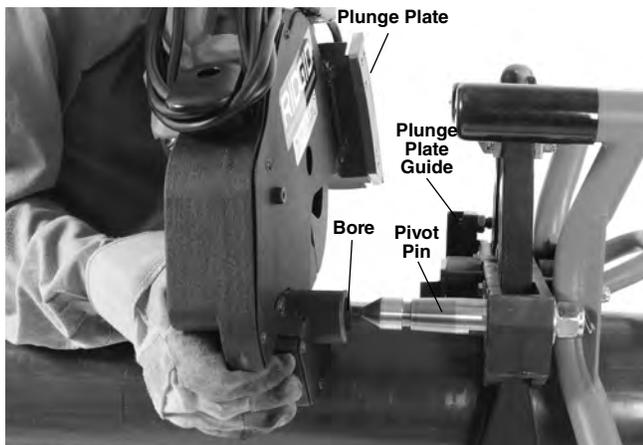

Figure 11 – Aligning the Pivot Pin
2. Securely grasp the PCS-500 Transportable Pipe Saw at the handle and the pivot grip. Align the pivot pin bore on the PipeSaw with pivot pin of the clamp and the plunge plate should be higher than the plunge plate guide. See *Figure 11*.
4. Press the latch on PipeSaw unit to disengage the pivot pin and slide the saw off of the pivot pin. See *Figure 11*.